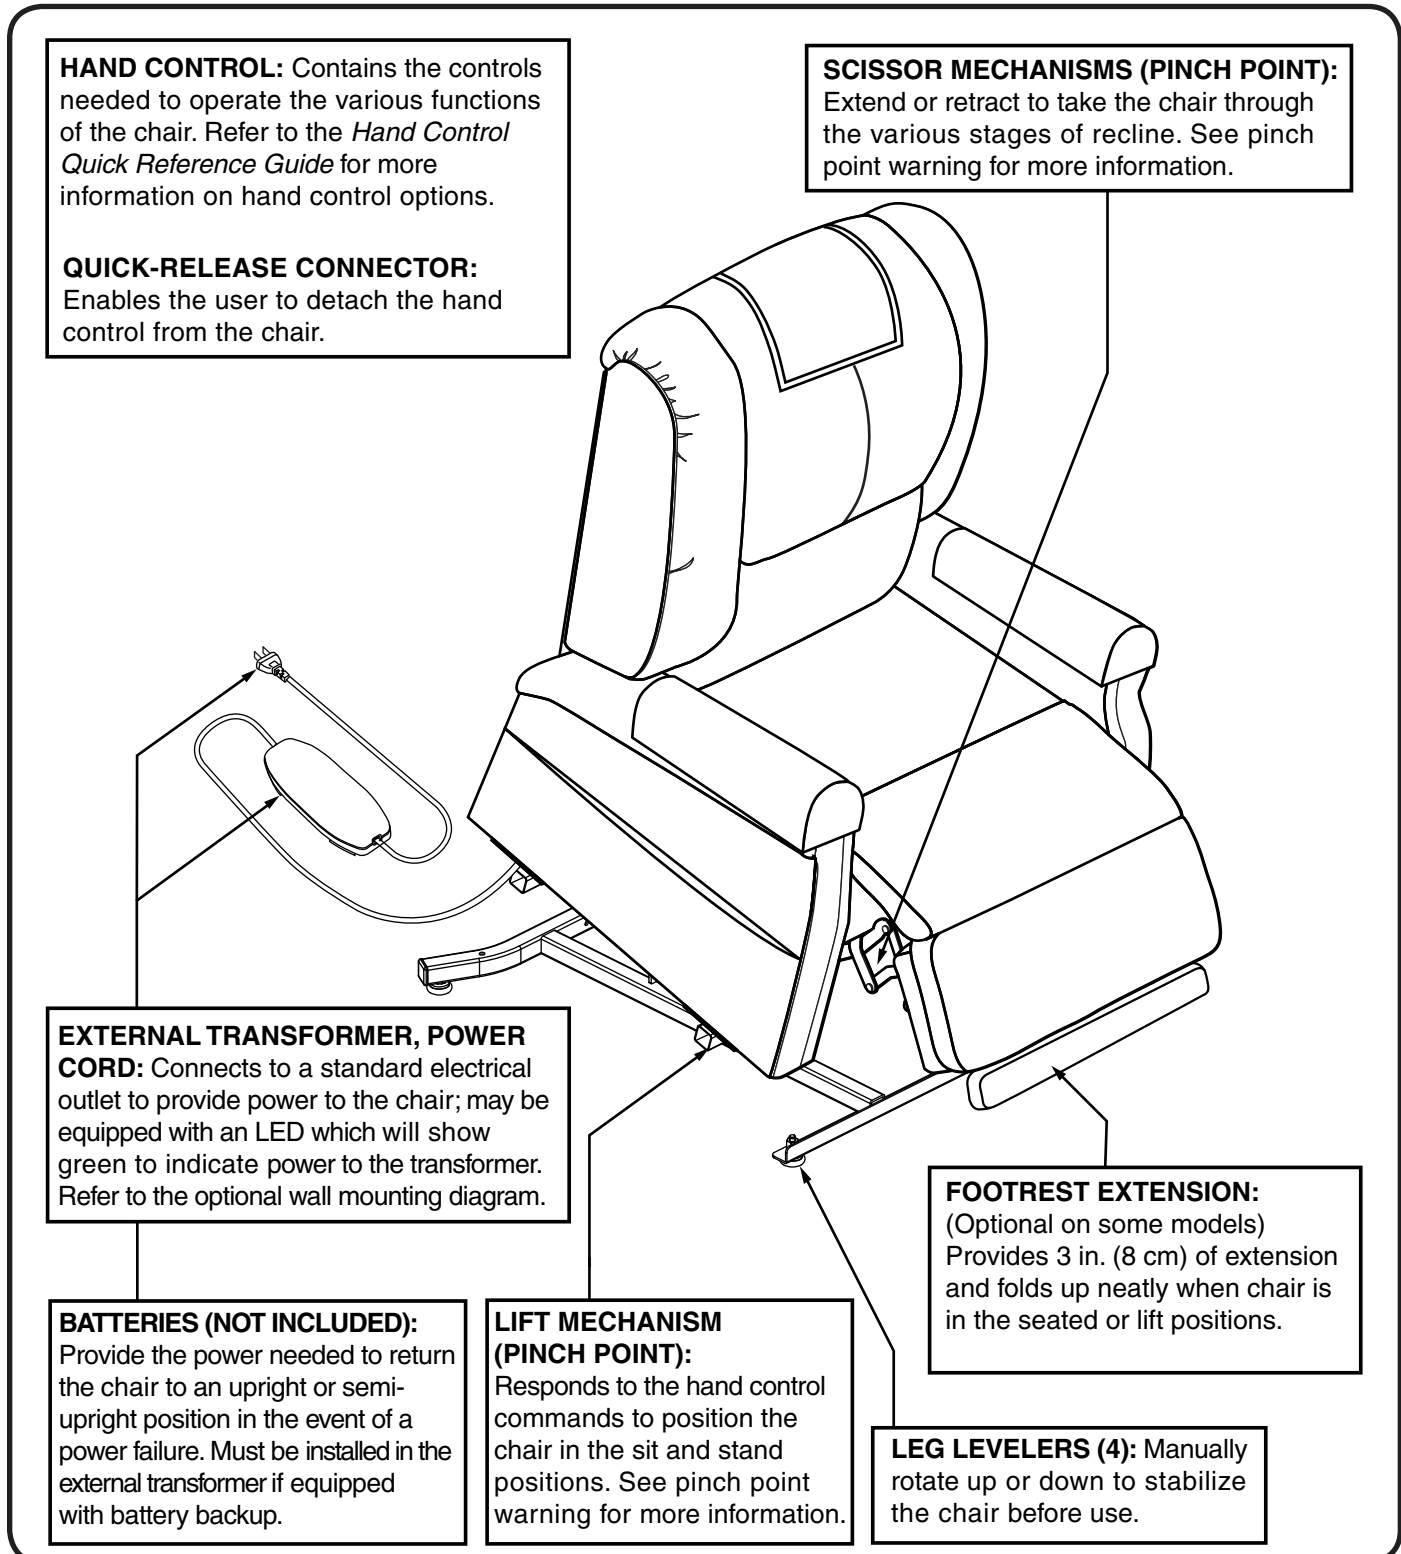

Figure 3.1 Chair Main Components
The scissor and lift mechanisms are labeled as pinch/crush point hazards on your chair. Keep clear of these areas and make sure the path of motion is unobstructed. See **figure 3.1** for pinch/crush point locations.
Chairs are equipped with several frame and electrical components. Typically, frame (or body) components include a removable back pad*, removable chaise pad*, footrest, leg levelers, a lift mechanism, and scissor mechanisms. The electrical components include the external transformer, hand control, and batteries‡ (not included). Refer to **figure 3.1** and note that the illustrations and options listed may not reflect the type of chair that you own.
2. Adjust the leg levelers to stabilize the chair (**fig. 3.1**).